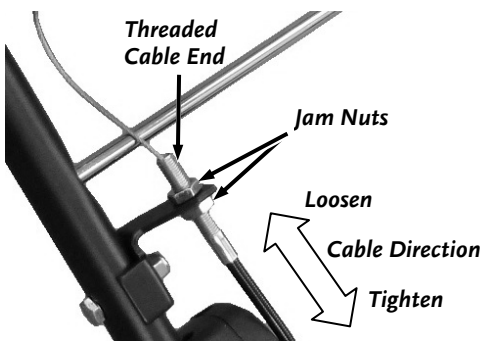

Figure 41
2. Adjust the Jam Nuts towards the end of the Cable to tighten the Belt tension or towards the sheathing of the Cable to loosen the tension of the Belt (**Figure 41**).